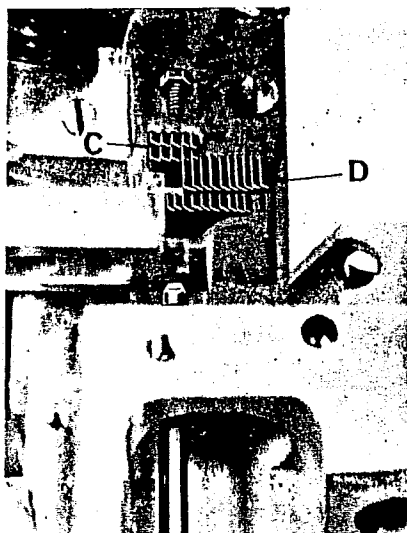
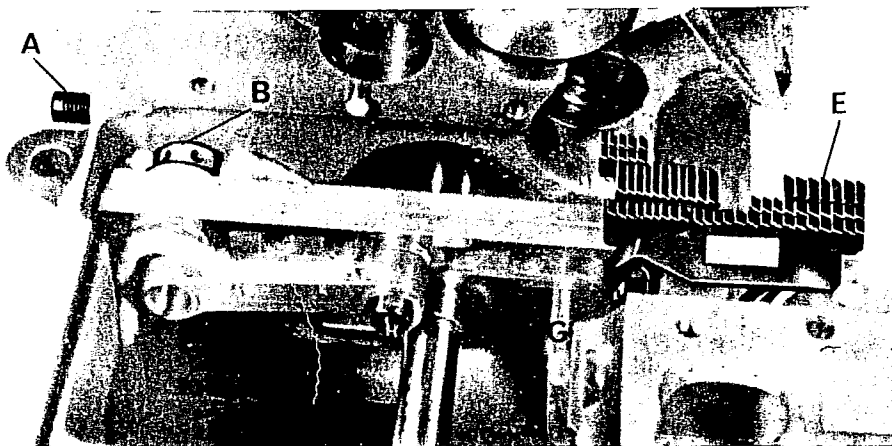

fig. 14
fig. 15
- At this point loosen screw 'F' (fig.14) and raise or lower feed dogs 'C' and 'D' so that half the depth of the teeth of the feed dog are above the top surface of the needle plate.
- Retighten screw 'F' (fig. 14).
- Set the front feed dog 'E' (fig. 15) in slot on differential feed lever with screw 'G'
- Retighten screw 'G' (fig. 15). It may be necessary in some cases to lower chaining feed dog 'C' (fig. 14) for chaining off purposes.
- In the event it is found necessary to tilt feed dogs, loosen screw 'A' (fig.15) and turn eccentric 'B' (fig. 15) in the direction required to get the proper setting.